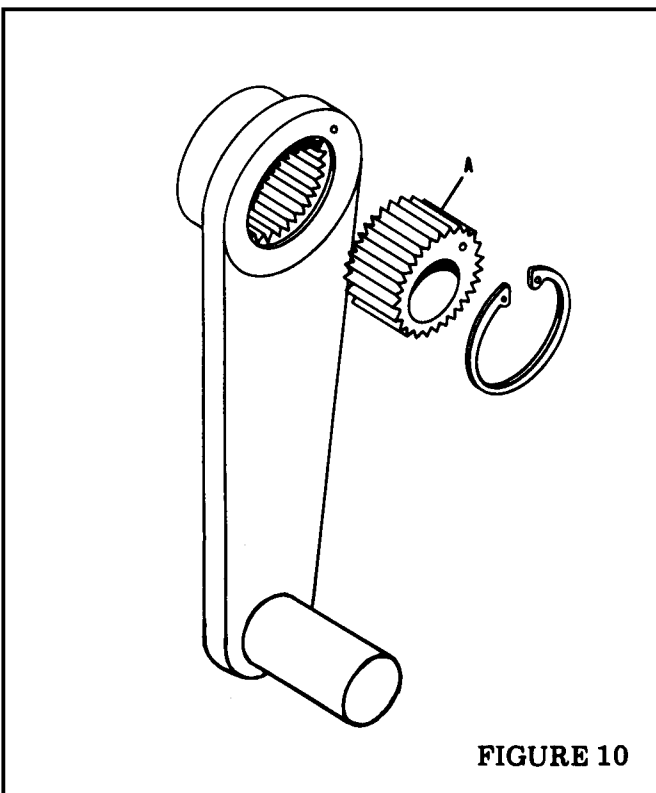
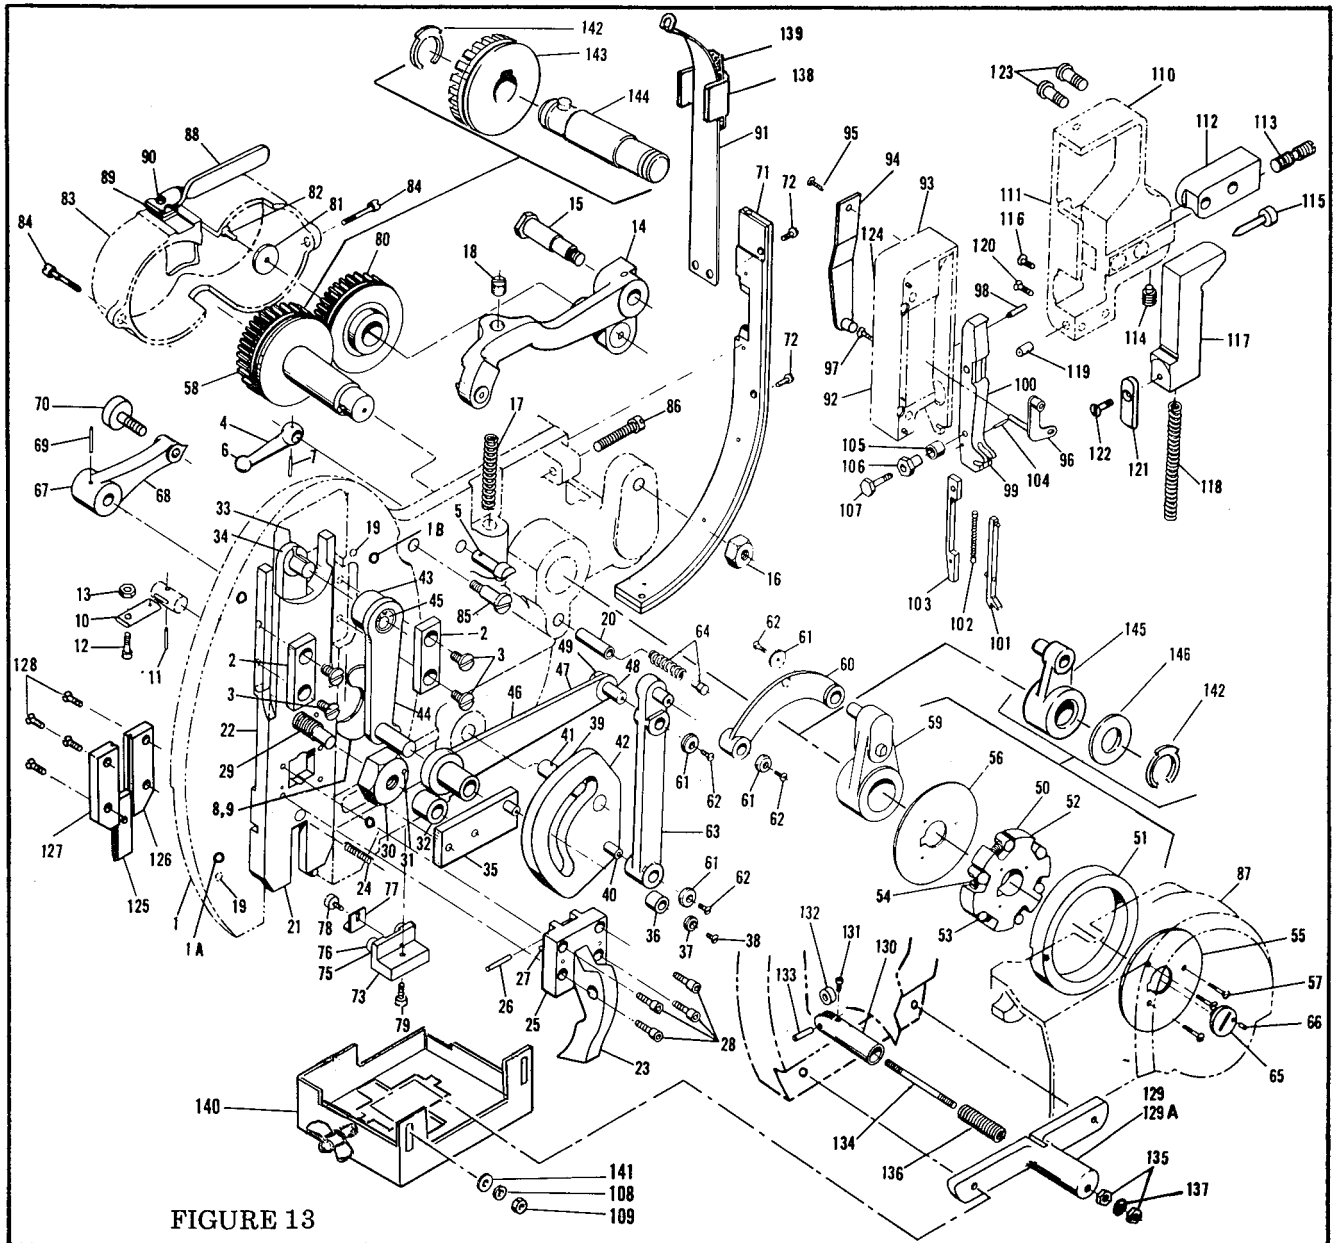

FIGURE 10
FIGURE 13
If the shoe support is insufficient, loosen lock screw in lock nut and back off the adjusting nuts (Index 135, figure 13). This permits the plunger roller to push the shoe further to the front of the stitcher. Make certain that the shoe does not come forward so far that it strikes the mandrel. This condition can damage the shoe and/or mandrel. If the corners of the shoe over which the stitch rides are square and sharp, round off slightly with fine emery cloth.
The adjustable drive bar link (figure 10 or Index 43, figure 13) controls the point at which the driver will stop at the lowest part of its travel. This makes it possible to bury the stitch in spongy material or elevate it above the work surface. At the lowest part of its stroke, the driver end should be approximately .010" below the ends of the formers.
1. Remove the face plate assembly (Index 1, figure 13).
2. Remove the former slide assembly (Index 21, figure 13) from the face plate.
3. Remove the driver bar and drive bar link (Index 43, 44, figure 13) by sliding from the face plate.
BE CAREFUL NOT TO LET THE DRIVE BAR LINK AND ECCENTRIC BECOME DISENGAGED. Make a mark on the drive bar link opposite the mark on the eccentric (Index A, figure 10) so there will be a locating point from which to gauge the amount of adjustment. Some machines already have marks that can be used as reference points in making necessary adjustments. Alignment of these marks does not necessarily indicate a correct setting.
The cutter block (Index 110, figure 13) contains the cut-off die, flat knife and the parts required to equalize the stitch length. The adjusting slide (Index 112, figure 13 top) is directly connected to the wire draw linkage in back of the stitcher head. The cutter block is adjusted on this slide to move the cut-off position in relation to the center of the stitch (this adjustment does not alter the amount of wire feed). The length of the shorter leg is increased by decreasing the length of the longer leg. Any adjustment made should therefore be one-half of the original stitch leg variation. Check for im-
1. Make certain that the index lever lock screw (Index 70, figure 13) is tight.
2. Loosen the set screw (Index 114, figure 13 top) not more than one-eighth turn.
3. To increase the length of a short right leg, turn the adjusting screw (Index 113, figure 13) clockwise. For a short left leg turn the adjusting screw counterclockwise.
1. Remove the front block assembly (Index 92, figure 13) and lower the table.
4. To increase the tension on the feed lever assembly (Index 14, figure 13) turn the set screw (Index 18, figure 13) clockwise.
The function of the wire feed clutch assembly (Index 50, figure 13) is to feed the same amount of wire for each stitch. This assembly is a simple over running clutch consisting of an outer ring and an internal spider which contains six rollers (each roller is backed by a light compression spring). When the outer ring is turned clockwise (facing this part from the back of the stitcher) the rollers are wedged between the spider and outer ring, causing the feed gear to turn. When turned counterclockwise, the outer ring moves independent of the spider and the feed gear remains stationary. The most common causes of slippage are (1) too much oil and/or dirt, (2) a broken spring or outer ring or (3) a worn spider.
10. Oil parts lightly and reassemble. The wire feed clutch brake assembly (Index 64, figure 13) prevents overfeed. Keep this part clean and free of oil.
The Function of this clutch is identical to that in section Q. However, if this clutch malfunctions, it must be replaced as an assembly with the feed clutch arm assembly. (Index 145, figure 13).